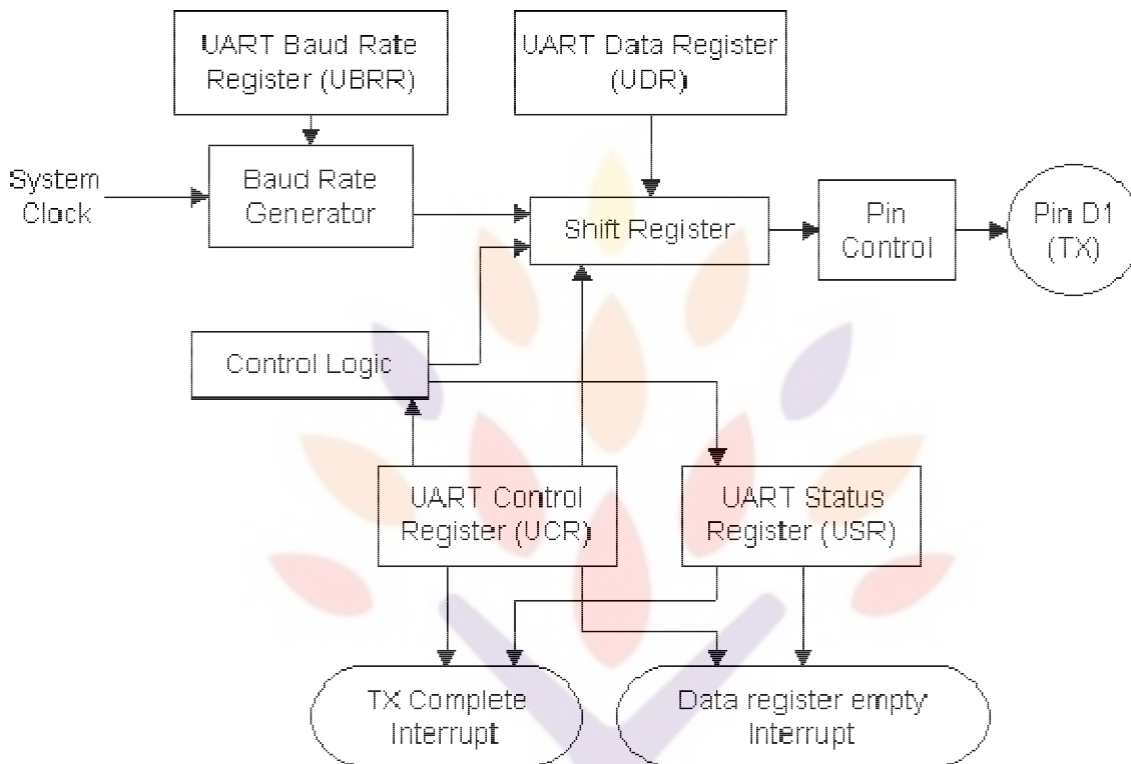

Fig 8.10. UART Transmitter
**Data Transmission** A block schematic of the UART transmitter is shown in Figure 8.10. Data transmission is initiated by writing the data to be transmitted to the UART I/O Data Register (UDR). Data is transferred from UDR to the Transmit Shift Register when: